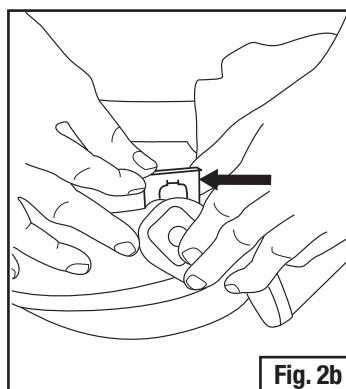

Fig. 2b
- Line up the visor frame over attachment slots and slide the metal spring clips into place. With the visor frame post and back plate engaged, the visor frame should be in the fully open or fully closed position before the spring clip is installed (Fig. 2b).